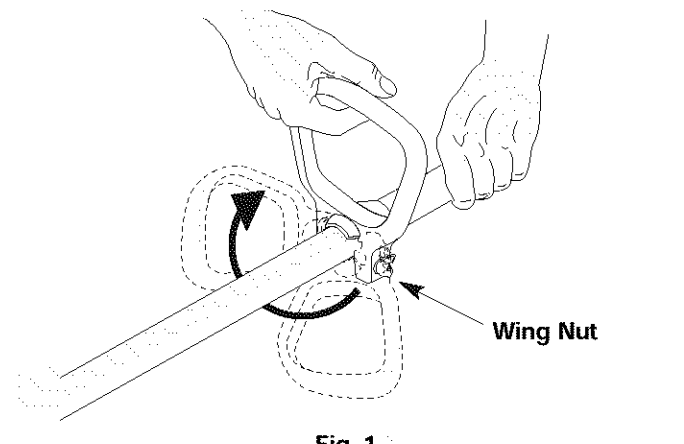

Fig. 1
1. Locate the wing nut on the D-Handle. Untighten the wing nut enough to loosen the D-Handle (Fig. 1).
2. Rotate the D-Handle to the upright position on the front side of the shaft housing (Fig. 1).